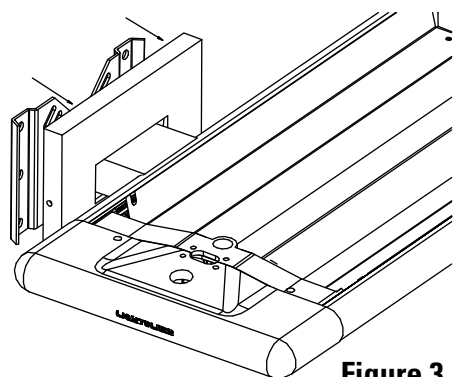

Figure 3
- B. Slide the wall canopies out of the way. (Fig. 3)